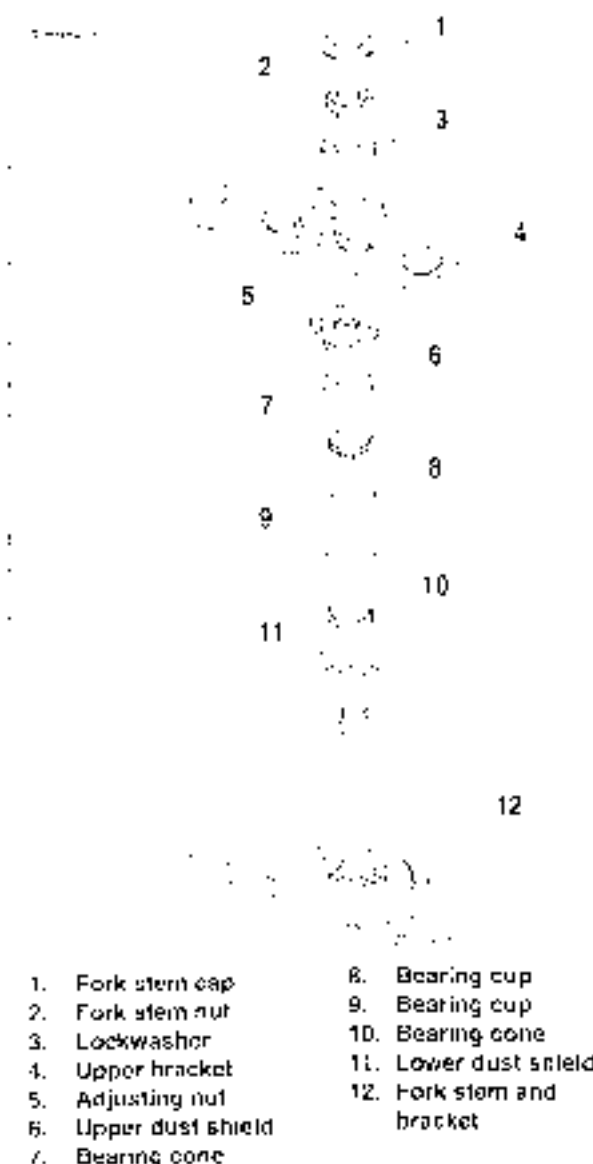

Figure 2-102. FXDWG Steering Head
4. See Figure 2-102. Remove the fork stem cap (1). Bend the lockwasher tab away from the fork stem nut (2) and remove the fork stem out with the handbar and upper bracket (4).
5. Remove the adjusting nut (5) and put the fork stem and bracket (12) out of the steering head. Remove the upper dust shield (6).
5. If necessary, remove bearing cups (XDL style items 5 & 6 in Figure 2-101 FXDWG items 8,9 in Figure 2-102). Using the same tools. If bearing cups are removed, the bearings cannot be reused. They must be replaced.
1. See Figure 2-102. Insert the stem and bracket assembly into the frame steering head and install the upper bearing and dust shield (6). Secure with the adjusting nut (5). Tighten the bearing seat until the bearings have no noticeable shake. Fork stem must turn freely from side to side.
2. Install upper bracket (4), a new lockwasher (3) and fork stem nut (2). Be sure pin on lockwasher registers in upper bracket hole. Tighten nut securely. Tighten upper bracket pinch screws to 21-27 ft-lbs (28.5-36.6 Nm).
7. Tighten fork stem nut to 45-40 ft-lbs (61.7-54.0 Nm). Bend the lockwasher lip against the nut (2), flat.